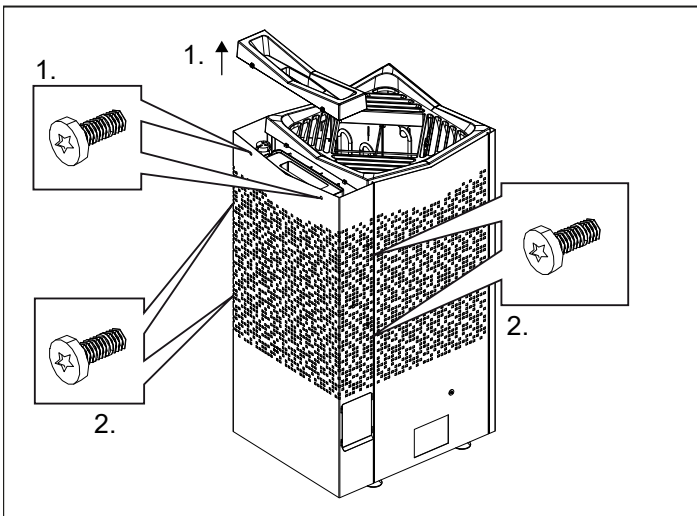

Fig 9: Undo the 6 screws to remove the back cover.
3. Undo the two screws on the back, remove the cover to the water reservoir (see 1 in Figure 9) Undo the screws on the sides. (see 2 in Figure 9).